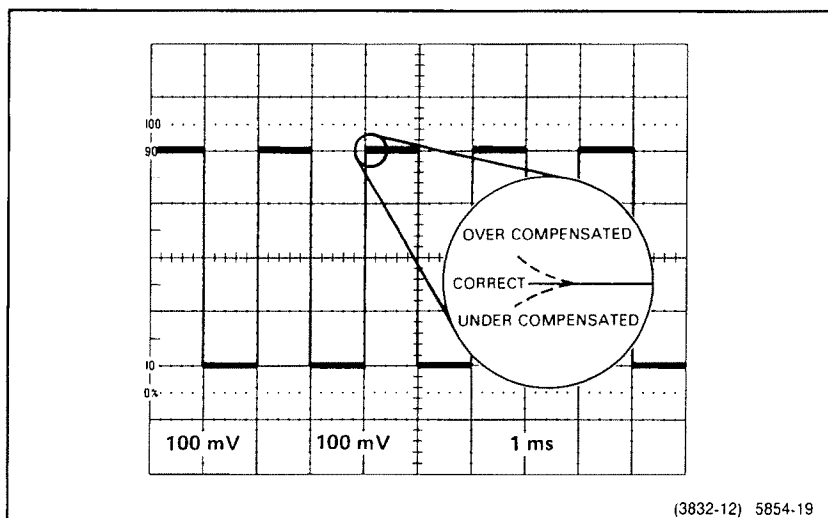

Figure 4-1. Probe low-frequency compensation.
4. Check the waveform for overshoot and rolloff (see Figure 4-1). If necessary, adjust the probe for a square front corner on the waveforms, using the small adjustment tool supplied in the probe accessory package. Insert the tool through the small hole in the side of the box attached to the vertical input connector.